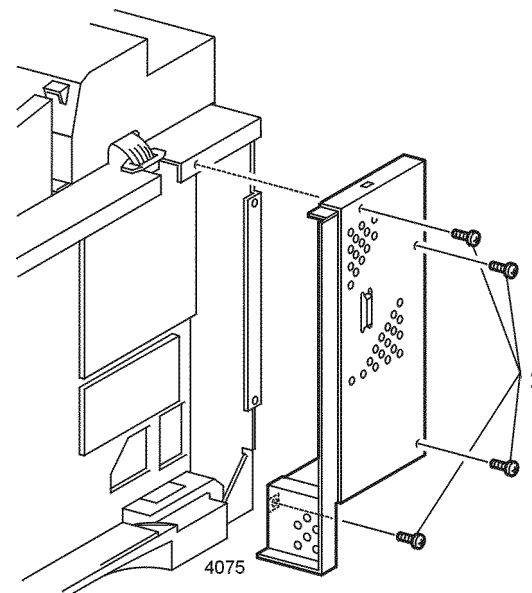

Figure 2 Print Engine Controller PWB Cover
3. Remove the four screws that secure the Print Engine Controller PWB Cover. Remove the cover (Figure 2).